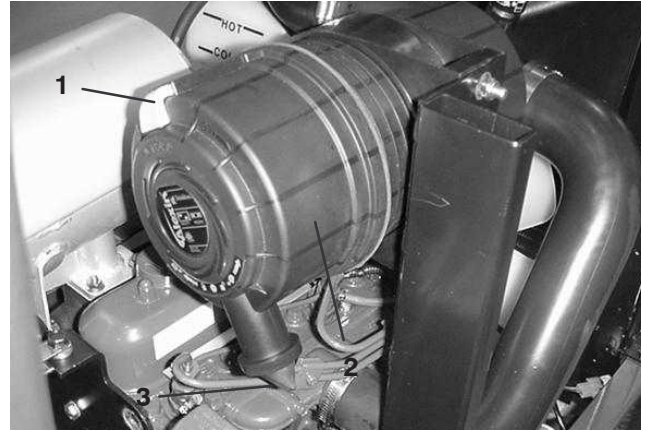

Figure 35
1. Pull latch outward and rotate air cleaner cover counter-clockwise (Fig. 35).
5. Install the cover orienting the rubber outlet valve in a downward position – between approximately 5:00 to 7:00 when viewed from the end (Fig. 35).